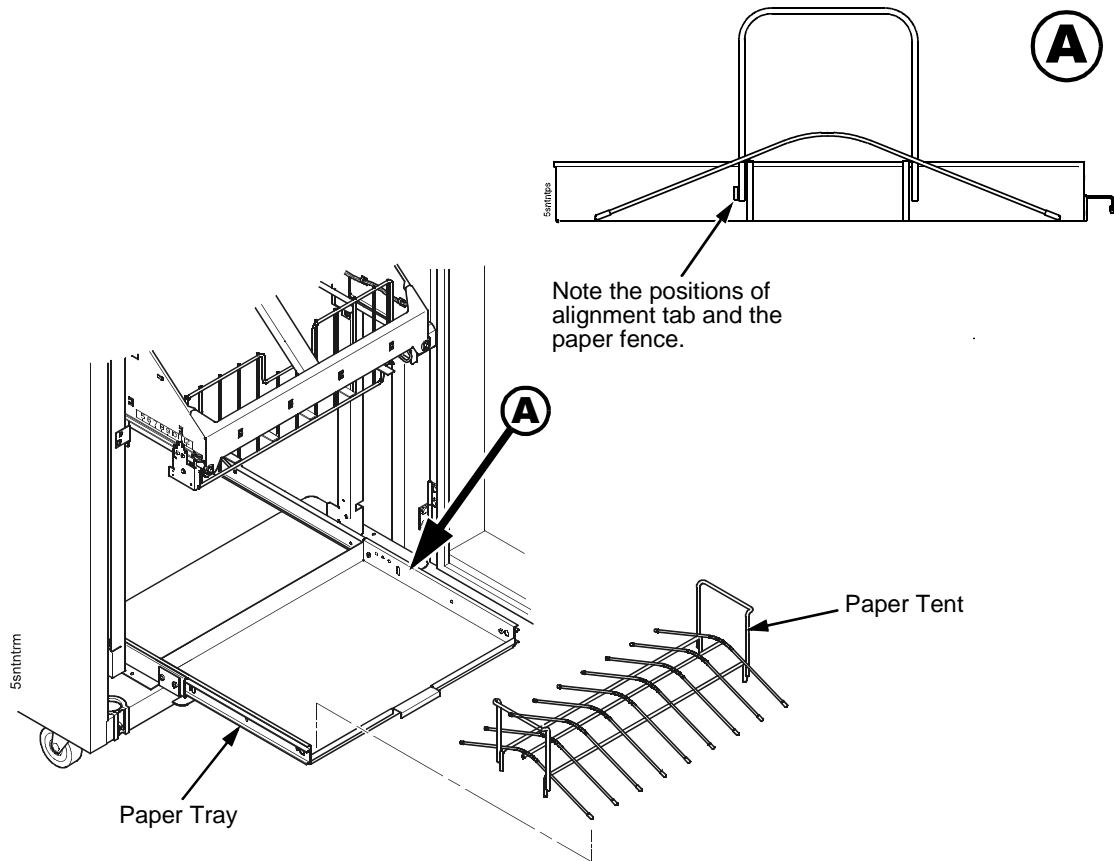

Figure 85. Paper Tent
38. Pull out the paper tray and install the paper tent. (Figure 85.)